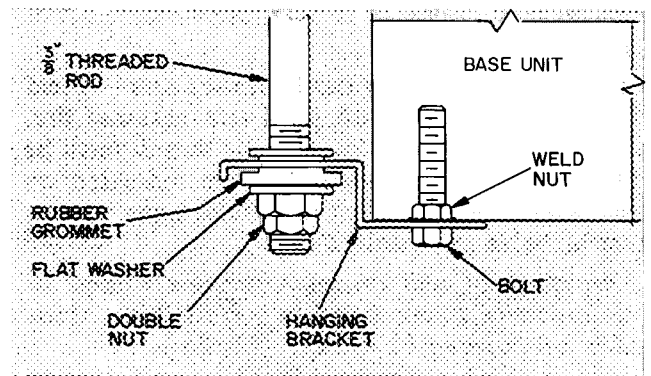

Fig. 3 — Suspension Kit Installation — 50HQ
- f. 50HQ units include a suspension package for ceiling installation. To attach hanging brackets, install 4 bolts (5/16 - 18-3/8 in. lg) thru bracket into the 4 weld nuts located on bottom of unit. Insert the threaded rod thru rubber grommet located in hanging bracket and attach with flat washer and double nut. See Fig. 3.